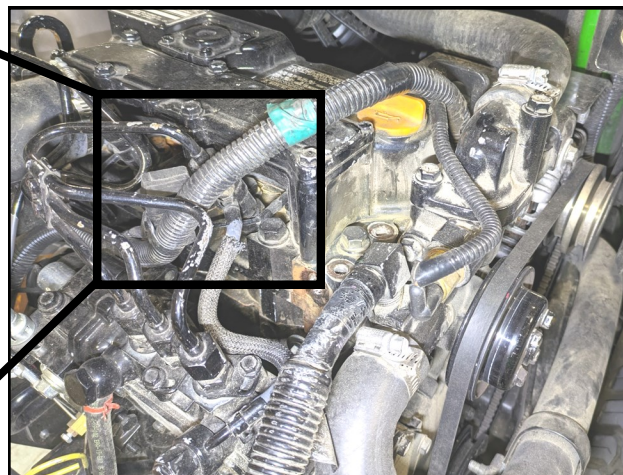

Fig. 1.33a (Route Wires)
1.33 Re-route the wire harness between the fuel hardlines as shown in Figures 1.33a and 1.33b and reconnect the white connectors.